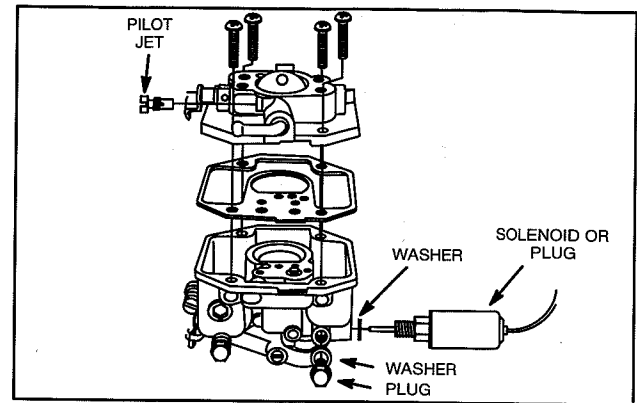

Fig. 116 – Install Upper Body
21. Install upper carburetor body, Fig. 116.